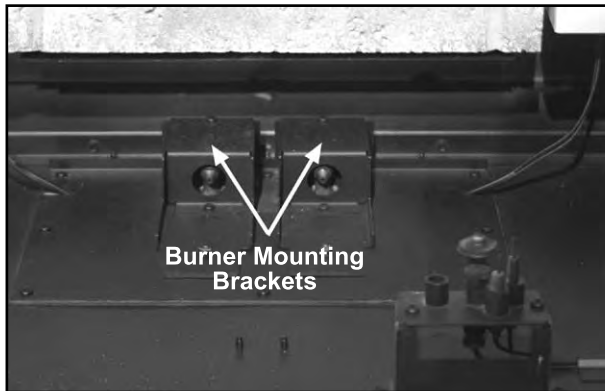

Figure 66: Burner Mounting Brackets.
2. In the bottom rear of the firebox there are two (2) gas orifices in a housing that facilitate the air shutter mechanisms and the Burner Mounting Brackets are above them (See Figure 66). There are two (2) mixing tubes underneath the back of the burner (see Figure 65). Lift the burner into the firebox with the back of the burner tilted the burner downward. Keep the burner high enough at the front to clear the pilot assembly. Line up the mixing tubes with the holes in the burner mounting brackets and slowly lower the front of the burner over the pilot assembly (see Figure 67).